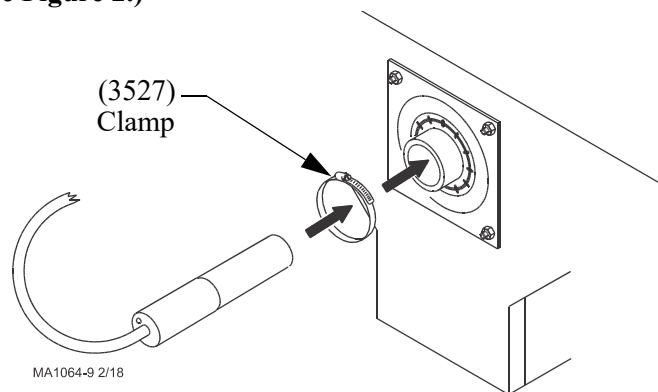

Figure 2. Proximity Switch Installation
3. Install the Proximity Switch in the plastic Switch Mounting Plate. The sensing end of the Proximity Switch should be inserted approximately 1 inch (25 mm) into the hopper. Secure the Proximity Switch in place using the clamp supplied. (See **Figure 2**.)